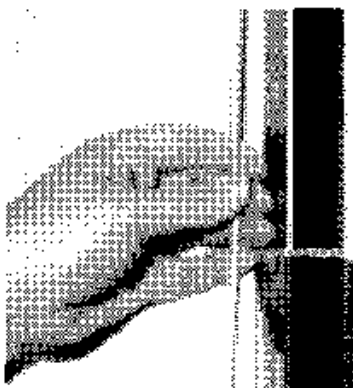

Fig. 3
3. Continue cranking until the limit cable is almost tight. The gray limit cable is located directly above the crank position. Fig. 3
8. Now, complete raising roof until gray limit cable is snug. **DO NOT OVERTIGHTEN.** Fig 3